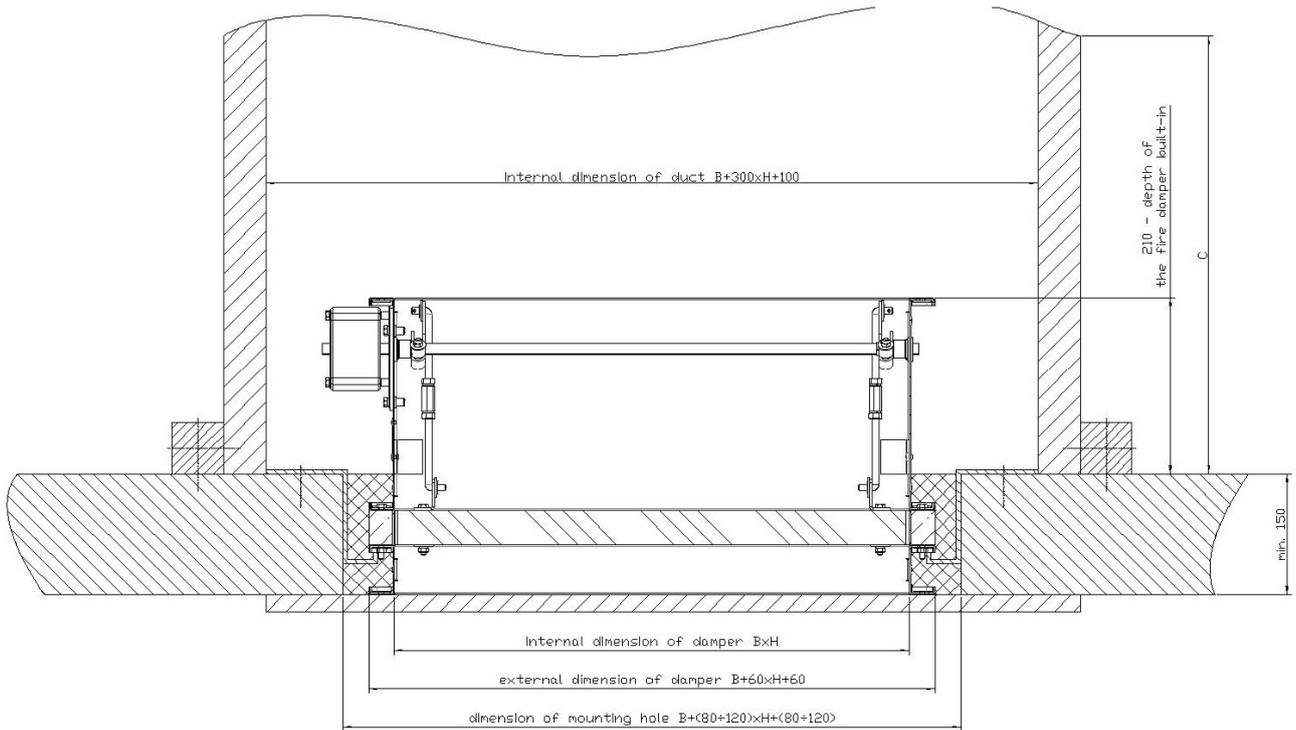

Figure 7. Installation method of fire dampers KWP-P in ceiling with a duct made of PROMAT boards with sealing of mineral wool
- a. Make an opening in the PROMAT duct with the dimensions allowing for installing connection duct into them. (item 7),
- b. Connection duct which have been connect with a damper, connect with the duct with using screws and PROMAT L500 AND PROMATECT-H, and insulate according to Fig. 7.